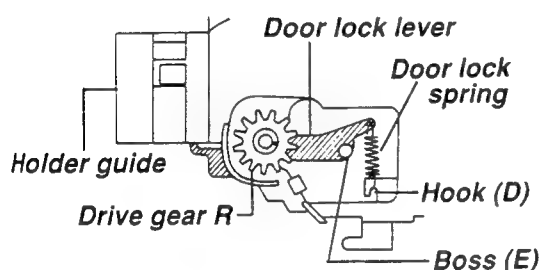

Fig. 4-1-15 View (C)
- Confirm that Boss (E) of the Fig 4-1-15 view (C) goes into groove (B).
2. Push two claws (A)' of the front loading assembly in the direction of the arrow and remove the holder guide upward.
3. Remove the arm gear R. (Refer to item "(3) Arm gear R replacement".)
4. Remove the door lock spring from the hook (D) of the front loading assembly. (Refer to Fig. 4-1-15.)